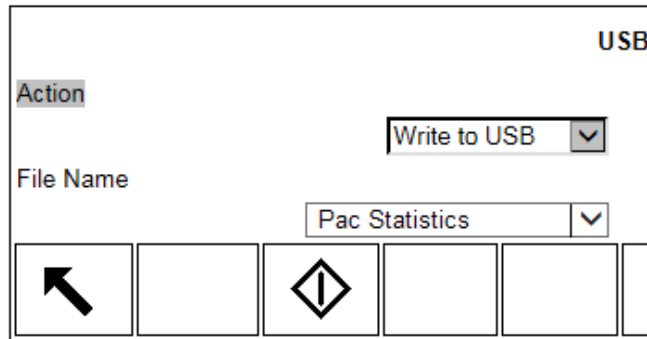

Figure D-4: Write Pac Statistics to USB Flash Drive Display
3. Under the File Name selection, choose Pac Statistics as shown in Figure D-4.